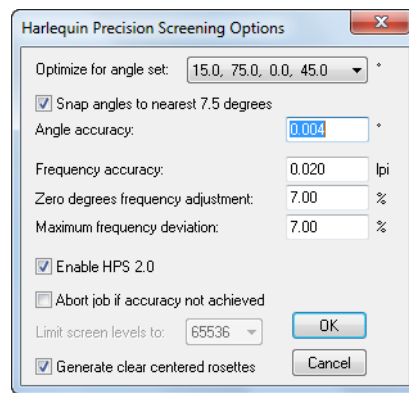

Figure 6.6 Harlequin Precision Screening Options dialog box
- When using HPS, the RIP produces the number of gray levels required to attain the specified accuracy of screening, as set in the HPS Options dialog box, shown in Figure 6.6, page 176.